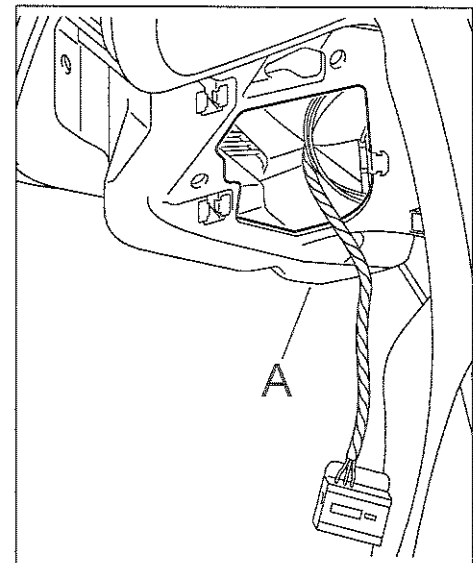

Figure 15
6.2.3 Fit glove compartment. While doing this, guide electric wire for key-operated switch "Airbag Auto/OFF" sideways through the cut-out ⇒ *Figure 15 -A-* in the glove compartment.